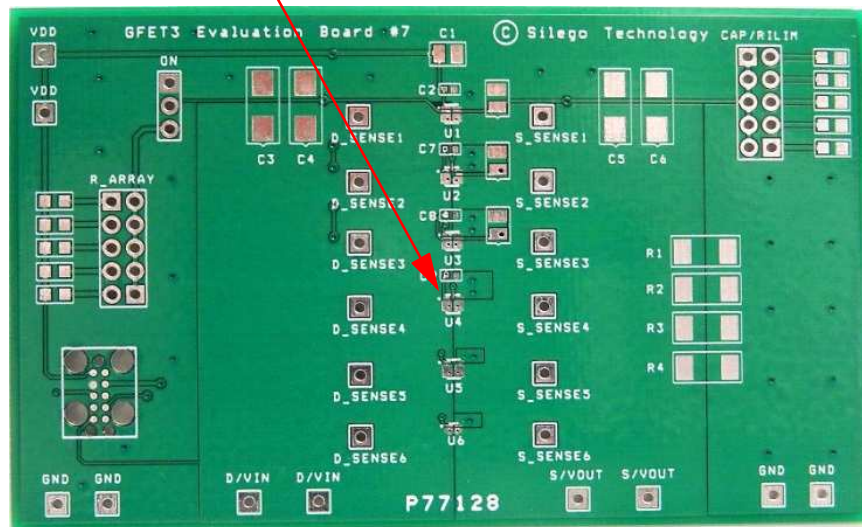

Figure 1. SLG5NT1477V Evaluation Board
2. Since the D and S pins dissipate most of the heat generated during high-load current operation, it is highly recommended to make power traces as short, direct, and wide as possible. A good practice is to make power traces with absolute minimum widths of 15 mils (0.381 mm) per Ampere. A representative layout, shown in Figure 1, illustrates proper techniques for heat to transfer as efficiently as possible out of the device;
A GreenFET Evaluation Board for SLG5NT1477V is designed according to the statements above and is illustrated on Figure 1. Please note that evaluation board has D\_Sense and S\_Sense pads. They cannot carry high currents and dedicated only for RDSON evaluation.